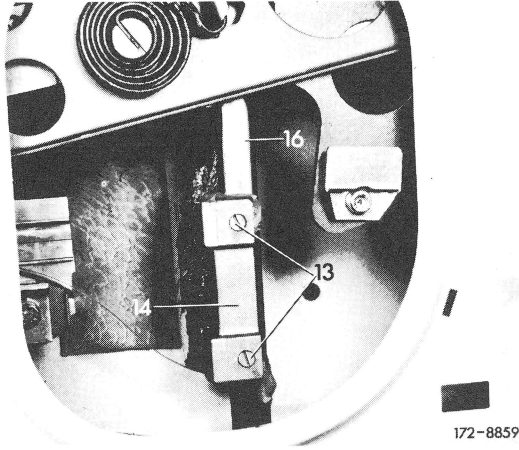

Fig. 13
For this purpose, screw both threaded studs (13) on **front** slide piece completely down, then screw threaded studs (13) back for approx. one 3/4 turn (Fig. 13).